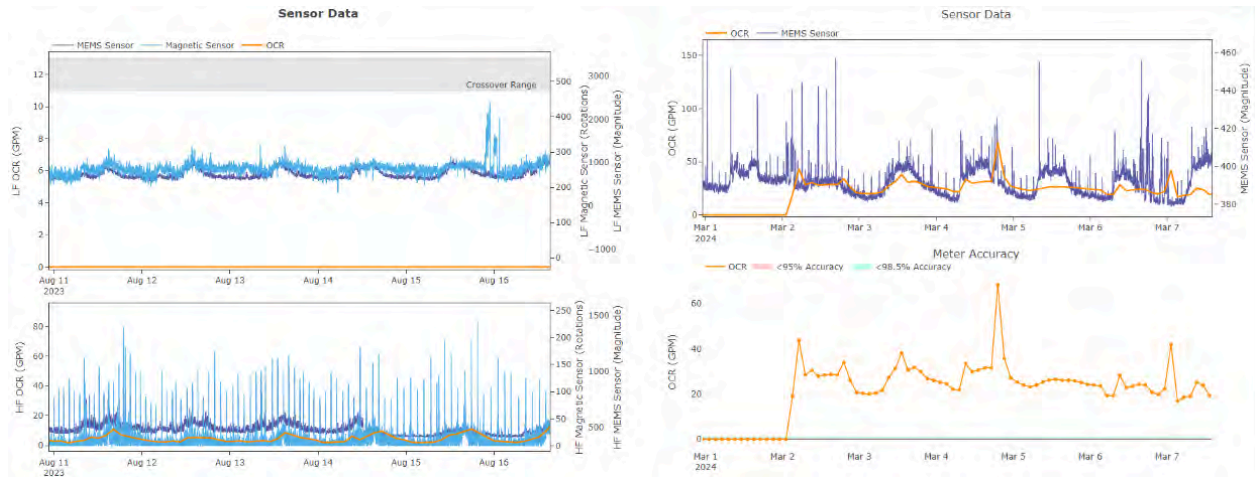

Figure 38 - Pre and post meter repair comparison
- This new meter register is now recording up to 75 GPM of flow, compared to the previously recorded combined flow of 15 GPM (Figure 38).